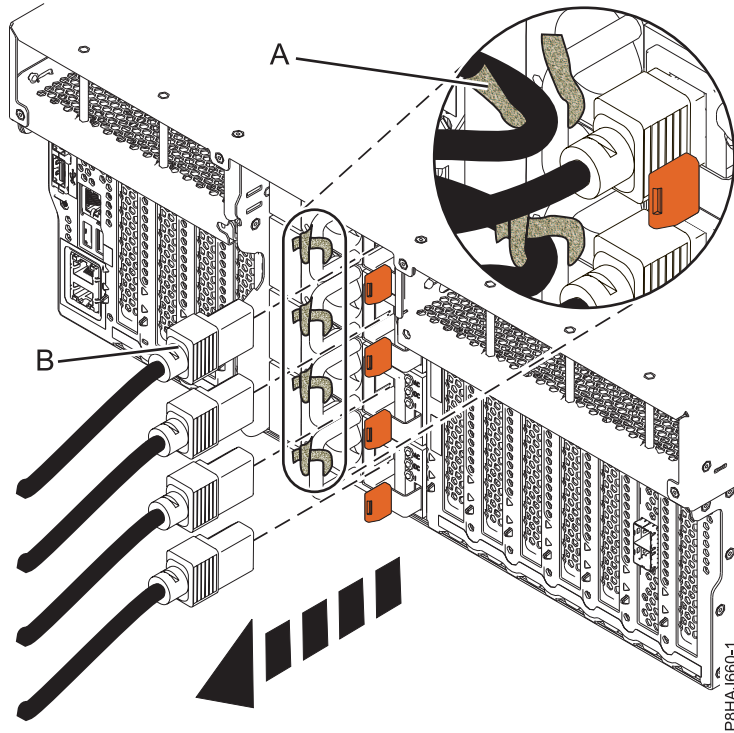
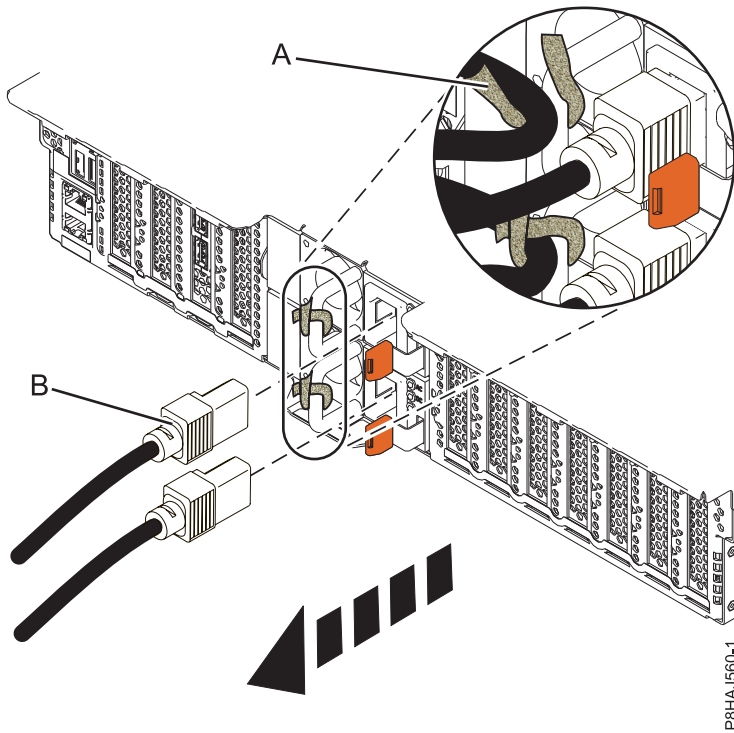
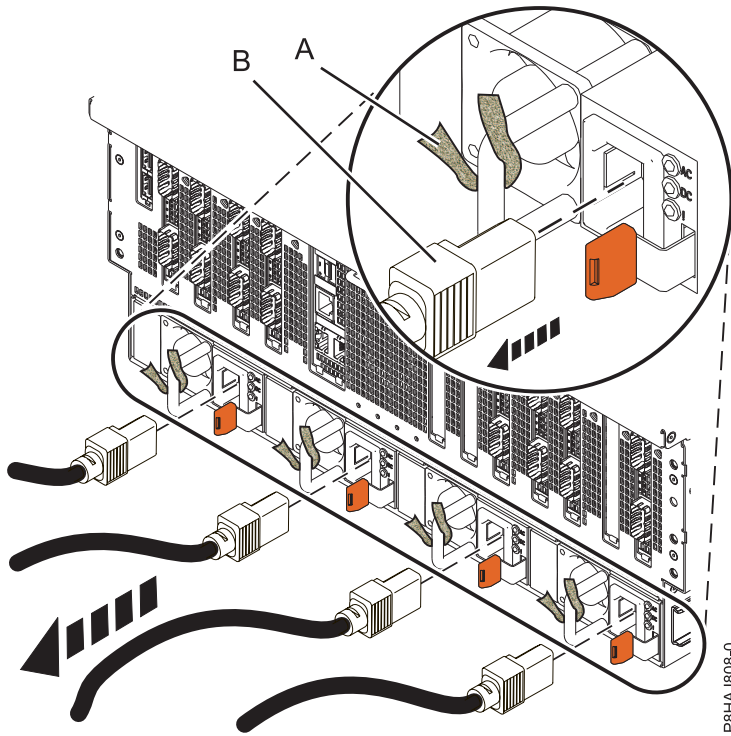

Figure 29. Removing the power cords from an 8247-42L, 8286-41A, or 8286-42A system
Figure 30. Removing the power cords from an 5148-21L, 5148-22L, 8247-21L, 8247-22L, 8284-21A, or 8284-22A system
Figure 31. Removing the power cords from an 8408-44E or 8408-E8E system
3. Disconnect the power cords (**B**) from the system unit. See Figure 29 on page 53, Figure 30 on page 53, or Figure 31 on page 54 or depending on the type of your system.